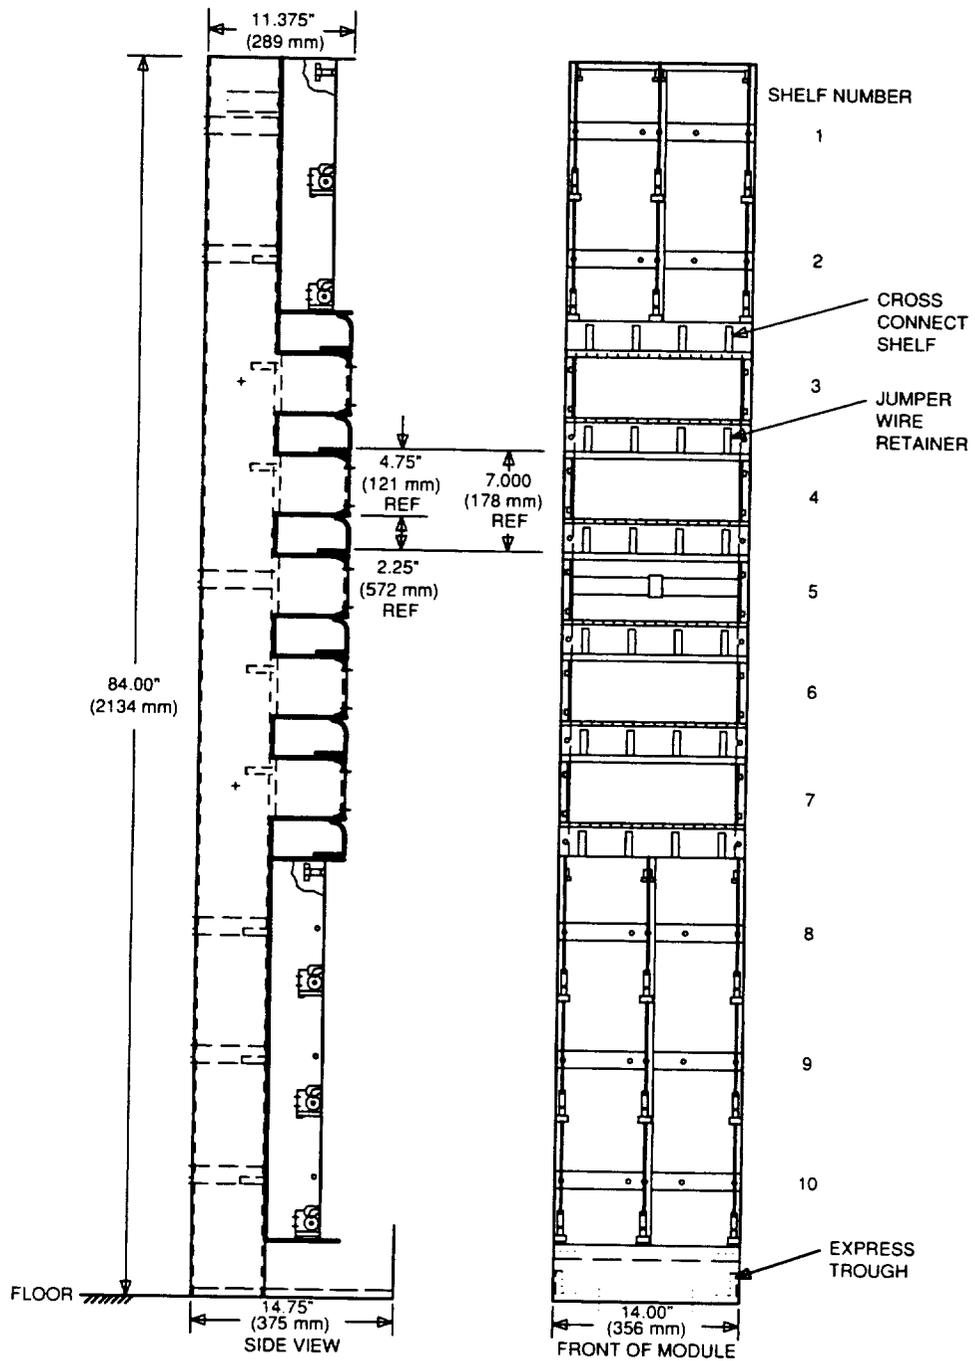

Figure 5. COSMIC Mini DF — Cross-Connect/Protection Bay (Upper Express Trough Not Shown)
- 4.05** The cross-connect/protection bay (Figure 5) is 7 feet (2134 mm) tall, 14 inches (356 mm) wide and 14-3/4 inches (375 mm) deep, and can be used to terminate subscriber (OSP), T-carrier, and special service lines. If the optional upper express trough is used, add 5 inches (127 mm) to the height. The cross-connect/protection bays have ten shelves. Five shelves can mount ten 307-type connectors (two per shelf) with attached factory pre-wired 100-pair 112-type connecting blocks that are mounted on the other five shelves (two per shelf). This results in a maximum capacity of 1,000 protected pairs.